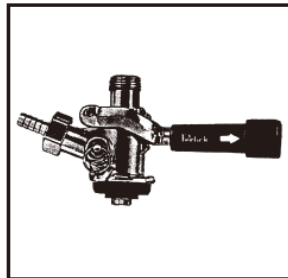

Figure 10
Listen for positive "click" of the pull handle in the final downward position (**Figure 10**).
- Pull tapping handle out and press downward until it locks into position (**Figure 10**). The keg is now tapped.